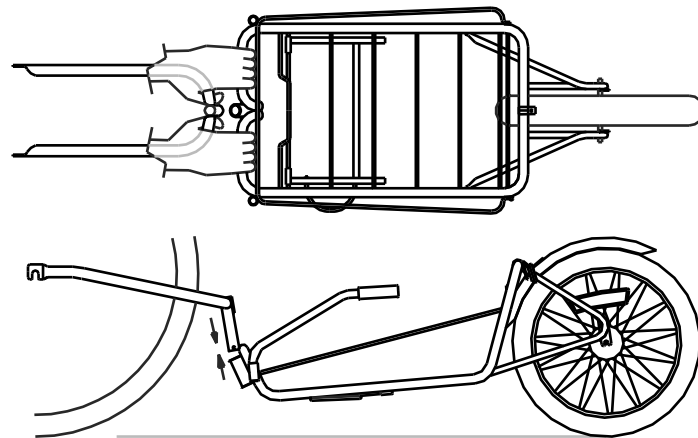

Figure 6 Attaching Maya Cycle trailer to the fork with the kickstand up
- B) With the kickstand up and little or no cargo, stand over the back wheel of the bicycle, facing the trailer. Attach the Maya Cycle trailer to the fork by inserting the pivot tube of the fork into the trailer fork sleeve as shown in Figure 6.